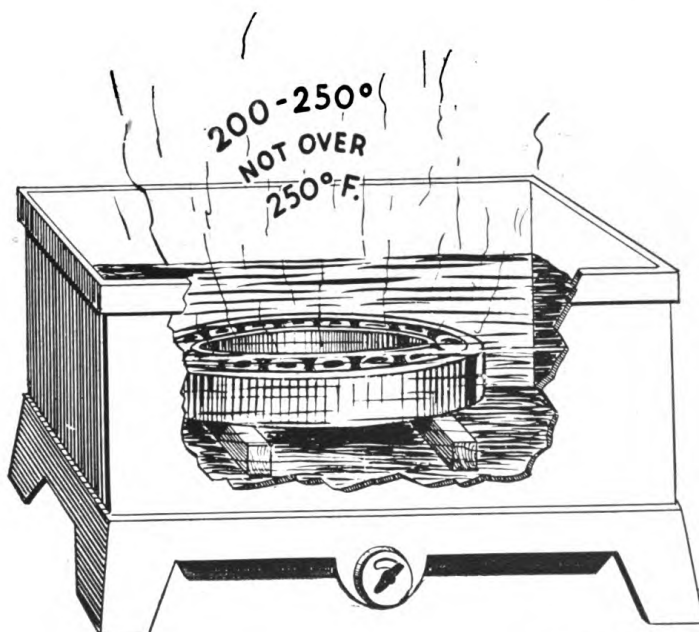

Figure 15. Support bearing on blocks, well away from bottom. Don't keep bearings in hot oil or oven after correct temperature is reached.
(2) Bearings should never be placed on the bottom of a tank, but should be suspended by hooks or laid on a screen or blocks (fig. 15), so that they may be heated uniformly and be free from sludge or dirt which will accumulate at the bottom of the tank.
(3) When hot air is used instead of oil to expand rings on large bearings, heating may be done in a small electric furnace or in a muffle type gas fired furnace. Service bearings may be retained in their original cartons. In this way, the bearings are kept fully protected from dirt until actually ready for installation.
(4) Electric lamps may also be used for expanding rings. A shelf-like structure is arranged so that when the bearing rests on it the inner ring bore surrounds the large section of the bulb. The burning lamp heats up the ring, expanding it, while permitting the outer ring to remain cool for convenient handling. Where large quantities of bearings are to be heated for assembly purposes, infrared lamps are used. The bearings are placed on a shelf between batteries of infrared lamps and reflectors and are moved along the shelf regularly, or are permitted to remain there until the required temperature is reached.
(5) If ring cannot be expanded sufficiently to install it, the shaft may be shrunk by cooling with dry ice or carbon dioxide snow.
(6) Equipment and methods described previously other than heating are still advisable for best results.